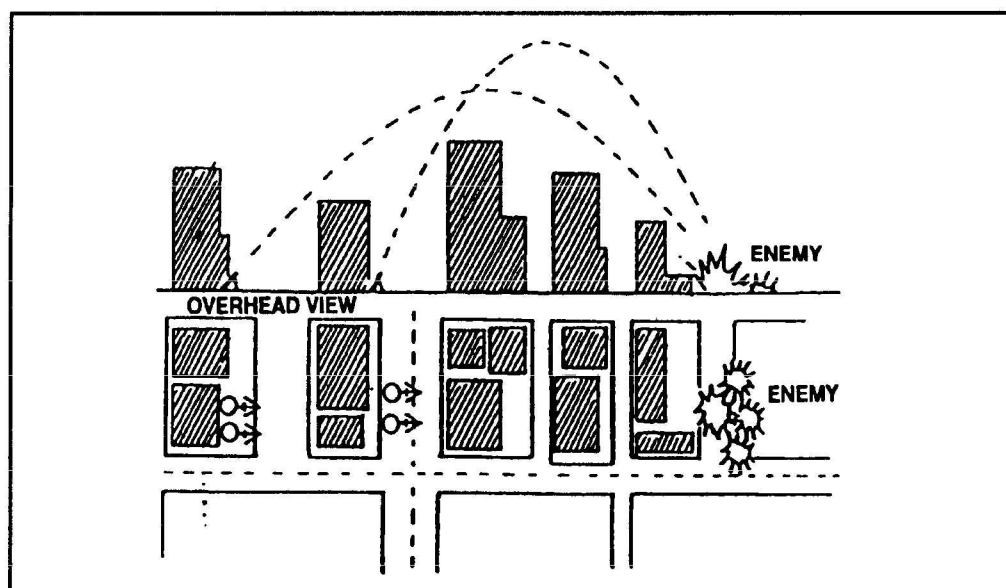

Figure 8-15. Split-section mortar operations on adjacent streets.
(1) Mortars can be fired through the roof of a ruined building if the ground-level flooring is solid enough to withstand the recoil. If there is only concrete in the mortar platoon's area, mortars can be fired using sandbags as a buffer under the baseplates and curbs as anchors and braces. Aiming posts can be placed in dirt-filled cans.
(2) The 60-mm, 81-mm, and 107-mm mortars of the US Army have limited effect on structural targets. Even with delay fuzes they seldom penetrate more than the upper stories of light buildings. However, their wide area coverage and multi-option fuzes make them useful against an enemy force advancing through streets, through other open areas, or over rubble. The 120-mm mortar is moderately effective against structural targets. With a delay fuze setting, it can penetrate deep into a building and create great destruction.
(3) Mortar platoons often operate as separate firing sections during combat in built-up areas. The lack of large open areas can preclude establishing a platoon firing position. Figure 8-15 shows how two mortar sections, which are separated by only one street, can be effective in massing fires and be protected from counter-mortar fire by employing defilade and dispersion.